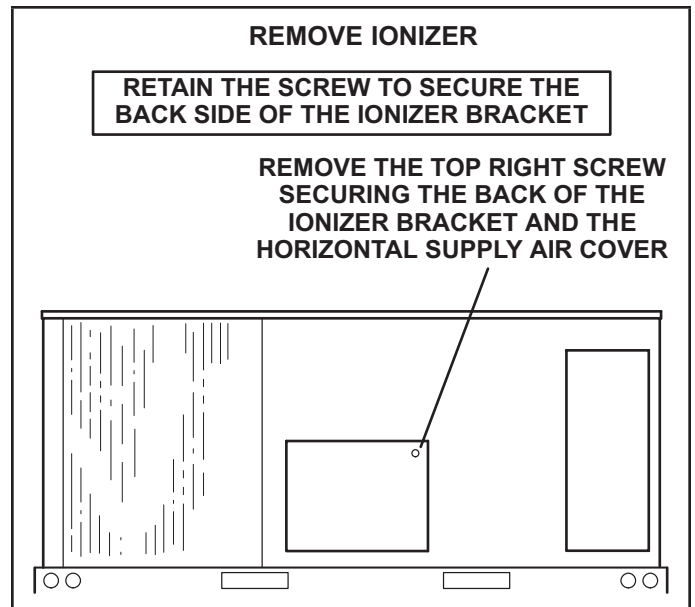

FIGURE 32
- 1 - On the back side of the unit, remove the screw securing the back of the ionizer bracket. See FIGURE 32. Retain the screw to secure the back side of the ionizer bracket.